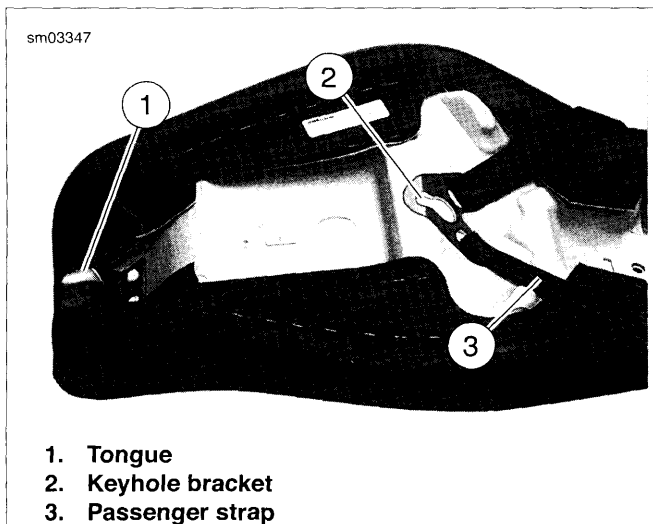

Figure 2-241. Seat
1. See Figure 2-241. The tongue (1) fits under the rear fuel tank bracket.
3. See Figure 2-241. Verify that tongue (1) and keyhole bracket (2) are tightly secured to seat bottom and that no rivets are loose or missing.